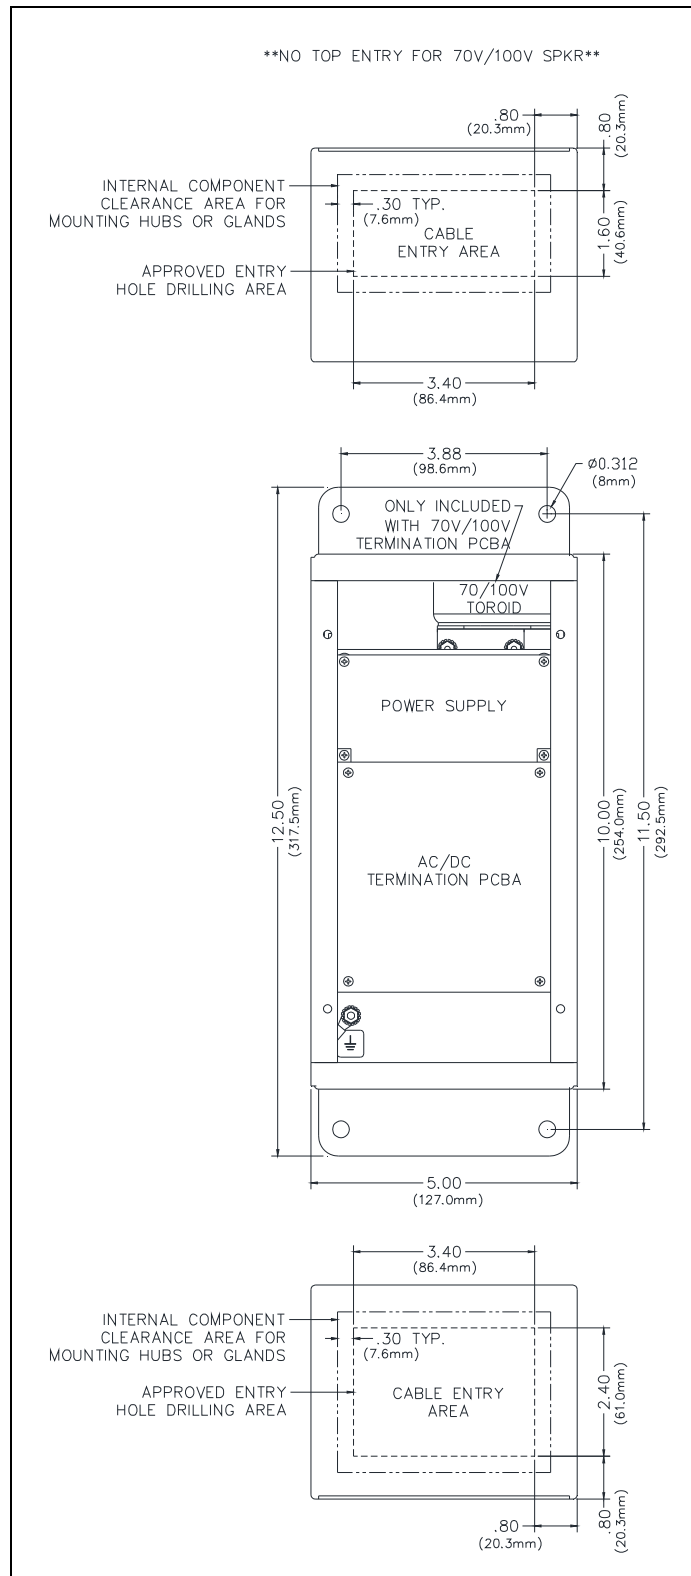

Figure 2. Suggested Wire Entry Locations
1. Mount the enclosure using the four 0.312-inch (8 mm) diameter holes located on the mounting flanges with 1/4-inch (M6) hardware (see Figure 2).
4. Drill or punch entry openings in the rear section of the enclosure (see Figure 2).